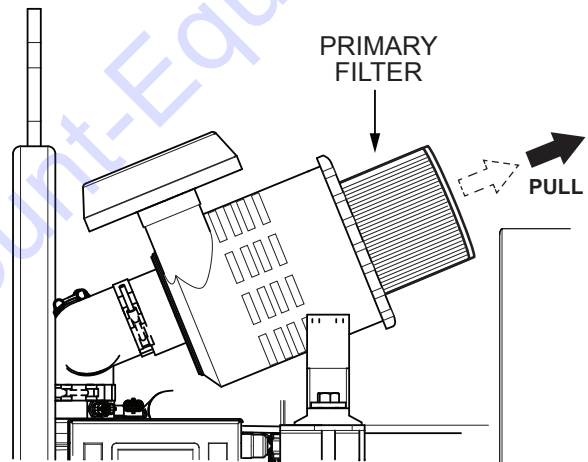

Figure 32. Primary Filter
4. Pull out the primary filter from the main canister (Figure 32).